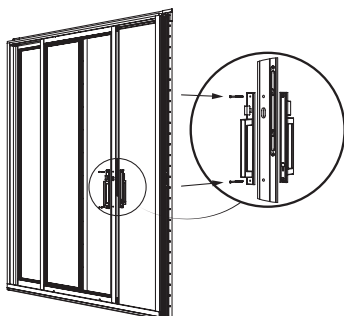

Figure 32
36. Attach the handle set and dummy handle set to the operable panel(s) following the provided manufacturer's instructions. (Fig. 32).